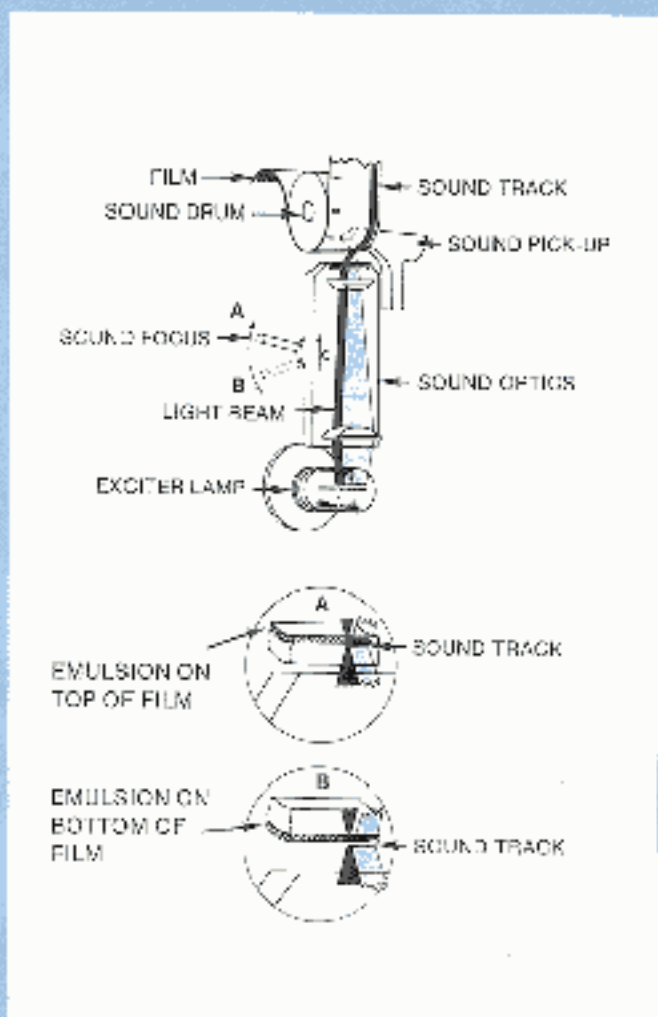

FIGURE 7
Figure 7 illustrates the proper position of the beam for each of the two types of film: one treated with the emulsion side on top and away from the sound optics (A) and the other with the emulsion side on the bottom and toward the sound optics (B).